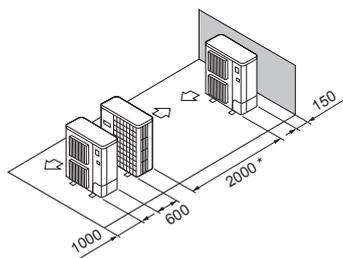

Fig. 2-12
- ⑤ Enkelt parallelt enhed arrangement (Fig. 2-12)